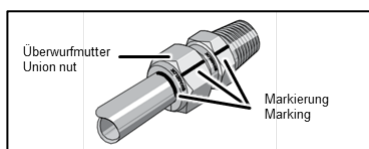

Fig. 11: Marking of the union nuts
2. Remove the pneumatic connection or the interstage cooler between the pump heads: To do so, mark the union nuts (Fig. 2/7) according to Fig. 11 and loosen them.
3. Mark the position of head plate (4), intermediate plate (14) and housing (13) relative to each other by a drawing line with a felt-tip pen.
4. Undo the six hexagon socket head cap screws (1) and the two screws (6); lift off head plate (4) and intermediate plate (14).
To do so, tighten the union nut in the original position (as it was marked during disassembly, see Fig. 11).